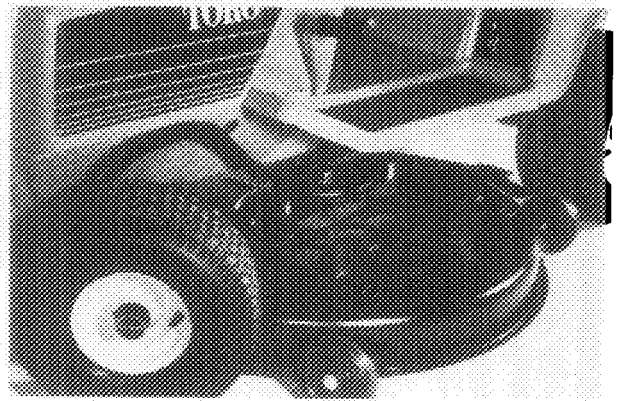

Figure 27
2. Set the cutting unit down on the wheels and rollers and slide the cutting unit (front end first) under the tractor (Fig. 27).
3. Insure the height-of-cut lever is in the lowest height setting. Position the cutting unit so the parallel links bisect the front brackets on each side and insert the clevis pins into the bracket holes from the inside toward the outside (Fig. 27).